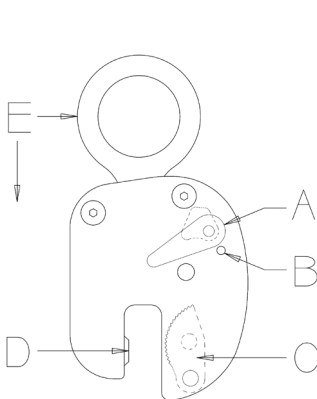
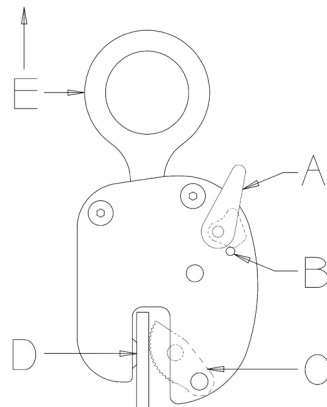

Figure 6: “Locked Open”
Figure 7: “Locked Closed”
8. Always ensure the clamp is seated properly on the material to be lifted. Place the gripping pad (D, Fig. 7) against the material when locking the clamp closed to ensure the rotating gripping cam(s) (C, Fig. 7) contact the material in the position they will make the lift.
6. Always ensure the clamp is seated properly on the material to be lifted. Place the gripping pad (D, Fig. 6 & 7) against the material when locking the clamp closed to ensure the rotating gripping cam(s) (C, Fig. 7) contact the material in the position they will make the lift.
4. Place the jaw of the clamp around the material to be lifted. Make sure the clamp is positioned so the edge of the material is 1/8” to 1/4” from the back of jaw opening and the gripping surfaces are in full contact with the material. When lifting from a horizontal position, our unique design allows the operator to load the clamp with the gripping pad (D, Fig. 7) below the plate or on top of the plate.
5. Secure the clamp in the “locked closed” position. Do this by seating the clamp on the material with the gripping pad (D, Fig. 6) against the material and rotating the lock handle (A, Fig. 7) until the lock inside the body is positioned against the stop (B, Fig. 7). The gripping cam(s) (C, Fig. 7) will rotate into the jaw and engage the material at the point where they will bite into the material once the lift is started.
WARNING: Not properly seating the clamp may cause the clamp to slide on the material once the lift begins. Always ensure the grippers are seated properly. Check this by pushing away on the clamp body as you pull back on the lifting shackle (E, Fig. 7) and look to ensure the gripping cam(s) and gripping pad are engaging the material.
3. Upon reaching the material’s destination, lower the clamp and material to a secure position until the tension is relieved on the lifting shackle (E, Fig. 6).
4. Once the load is at rest and secured, rotate the lock handle (A, Fig. 6) to the “locked open” position. This will disengage the clamp from the material and lock the gripping cam(s) (C, Fig. 6) out of the jaw opening to protect the gripping teeth. If the clamp is in a hard to reach position, push in on the lifting shackle (E, Fig. 6) after the lock handle (A, Fig. 6) is released to help facilitate locking the clamp open.